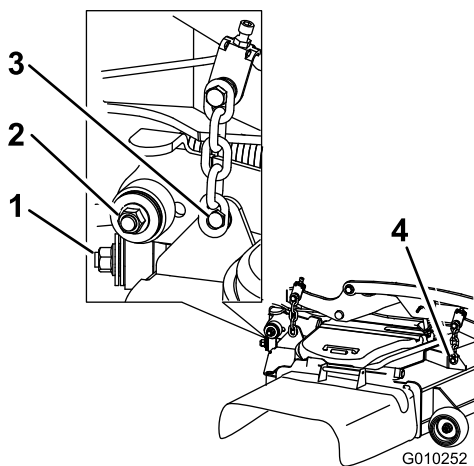

Figure 101
7. Remove and retain the hardware on both sides of the deck as shown in Figure 101.